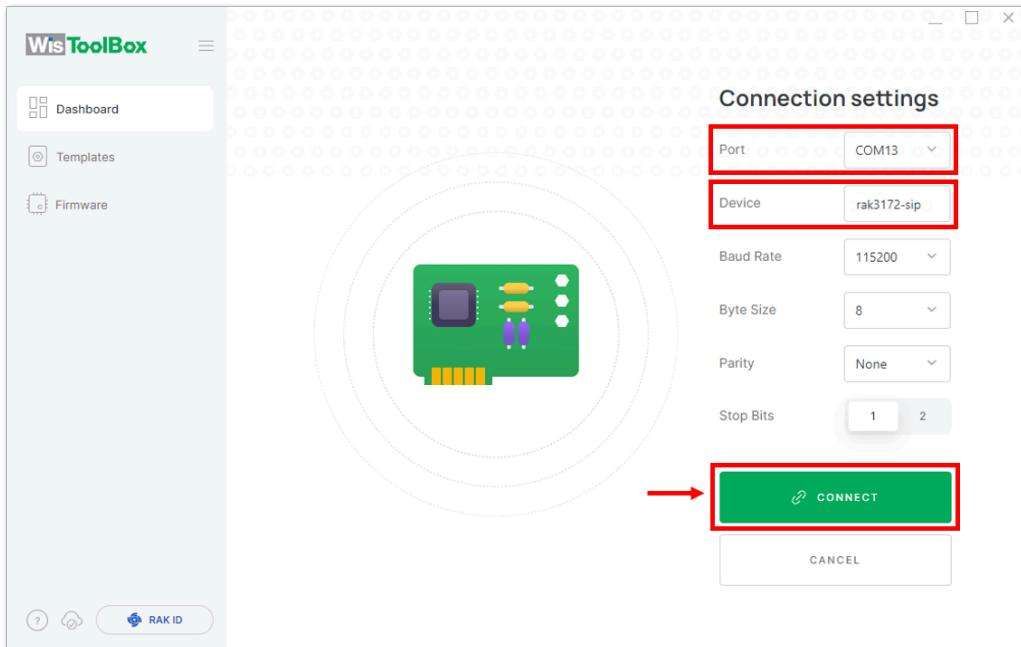

Figure 52: Setting up your device
3. Then select your target port where your **RAK3172-SiP** is connected. Once recognized, click **CONNECT** as shown in **Figure 52**.